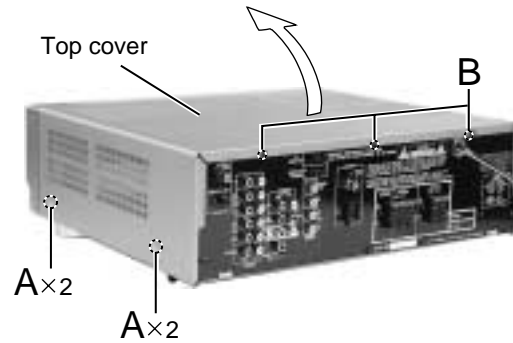

Fig.1
■ Removing the top cover (See Fig.1)